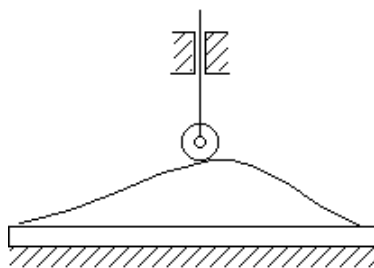

Figure 6-3 Translating cam - translating follower
3. Translating cam-translating follower (Figure 6-3).